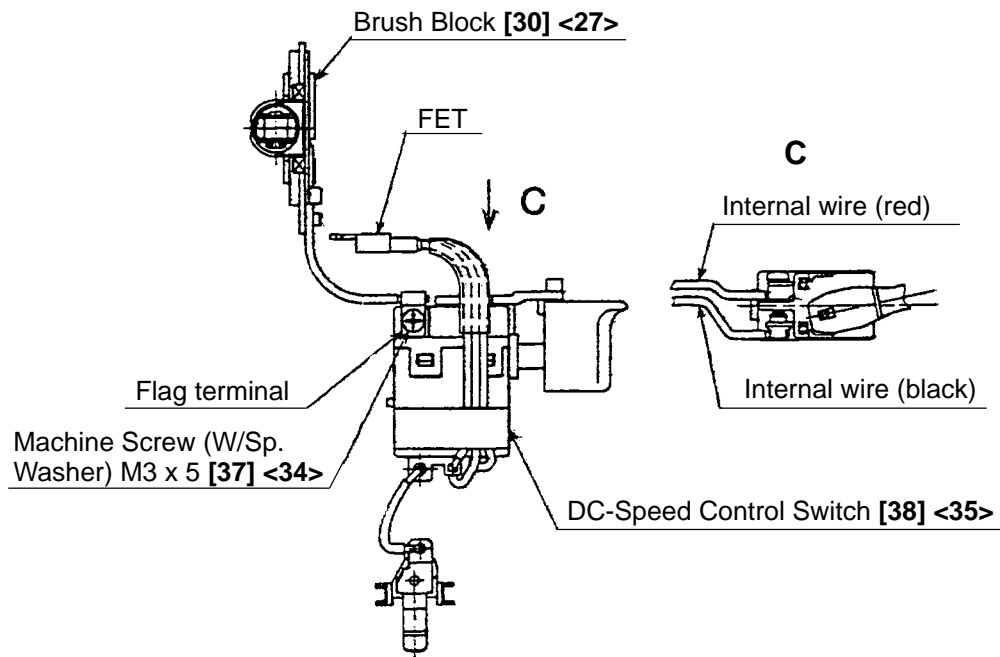

Fig. 6
(1) Reassembly of the housing assembly
- (a) Be sure to follow the wiring diagram (Fig. 6) for proper wiring.
- (b) When connecting the internal wires of the Brush Block [30] <27> to the DC-Speed Control Switch [38] <35>, fasten them with the Machine Screw (W/Sp. Washer) M3 x 5 [37] <34> paying attention to the direction of the flag terminal (Fig. 6).